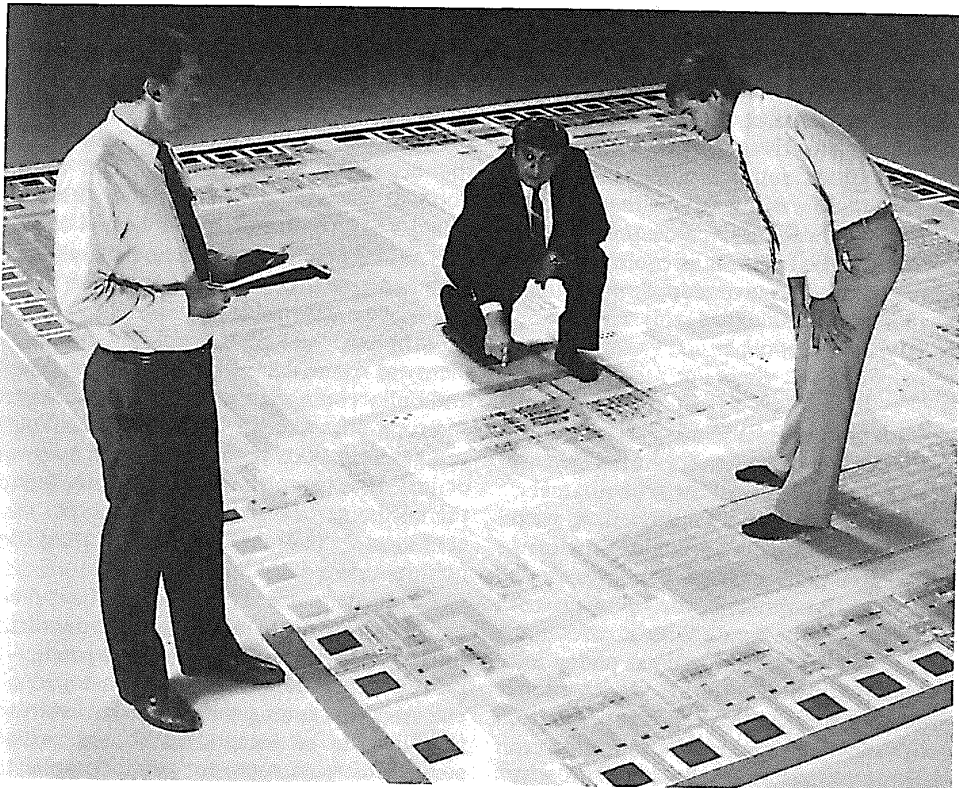

Figure 12.13. At the *chip*-design level, CAD/CAM isn't a luxury – it's a necessity. (Courtesy of Performance Semiconductor Corporation, Sunnyvale, California.)
□ *CAD-base ASIC.* We finish our CAD narrative by pointing out that you would not dream of designing custom or semicustom (gate-array) ICs by hand (Fig. 12.13). These belong in the general class of "application-specific integrated circuits," or ASICs. Once again, CAD comes to the rescue, with capture and simulation software that gives you some assurance that your chip has a chance of working. ASICs are rational in the context of substantial production runs, and we confidently assume that the situation will only improve with time. By the time of the next revision of this book it may have become